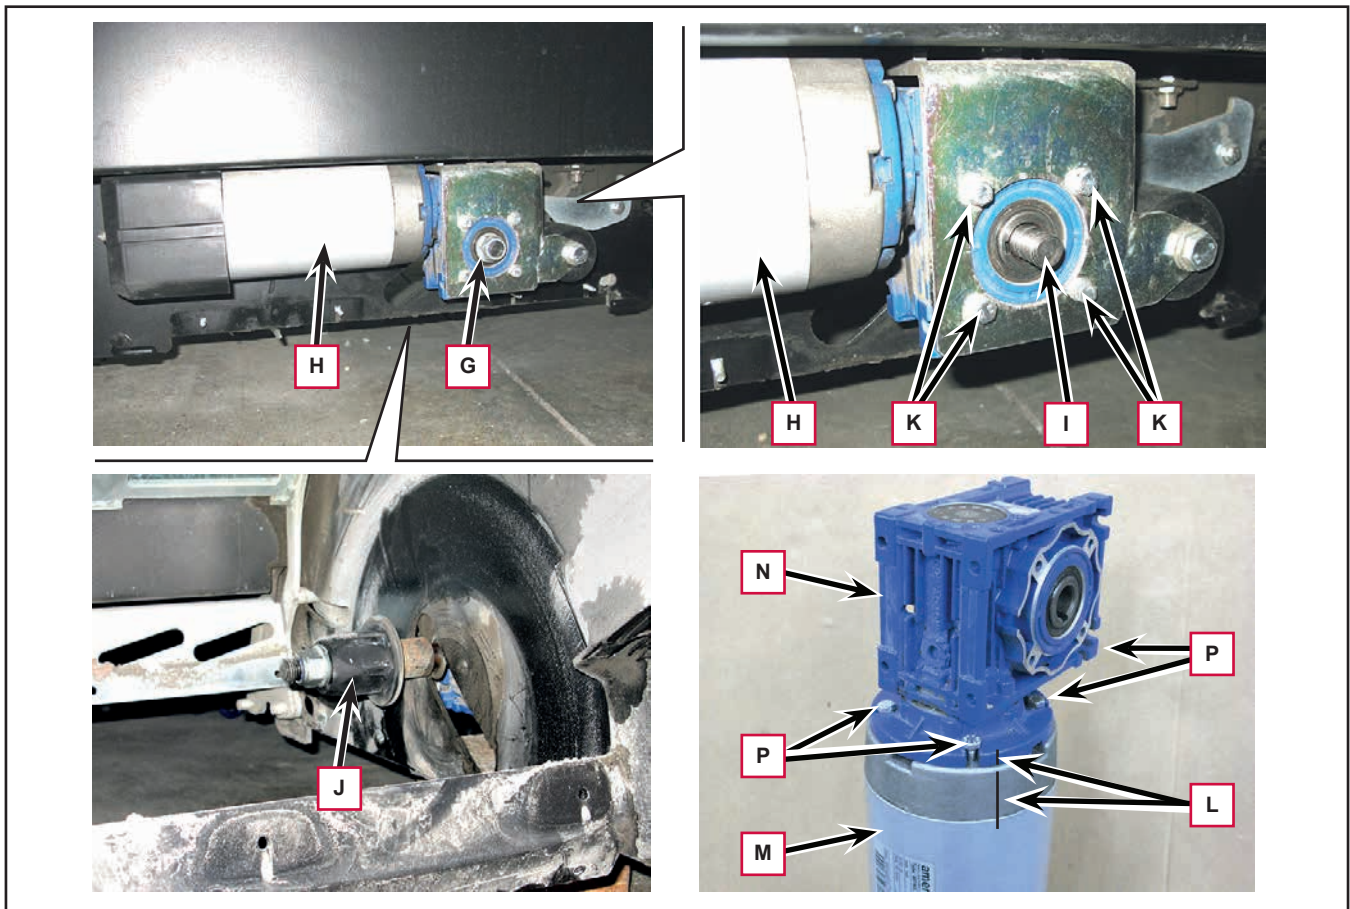

Figure 17
10. Unscrew the nut (G, Figure 17) on the main broom motor (H).
11. Use a rubber mallet to tap the threaded pin (I) inwards, then remove it from the side broom compartment, complete with the drive hub (J).
12. Unscrew the four screws (K) and remove the main broom gear motor (H).
- Mark the relative position (L) between the motor (M) and reduction unit (N).
- Unscrew the four screws (P) and remove the reduction unit (N), detaching its shaft from the motor (M) with a spanner (unscrew the screws (P), gradually extracting the reduction unit).